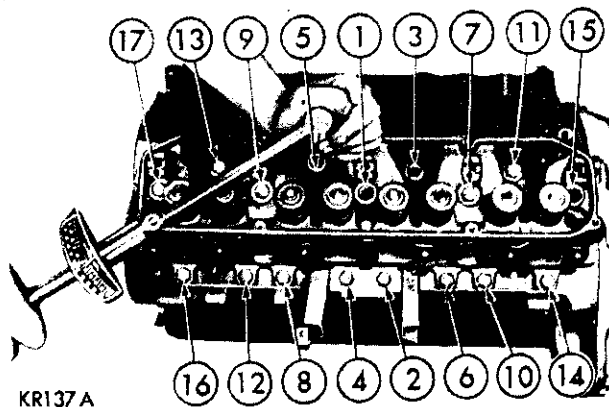
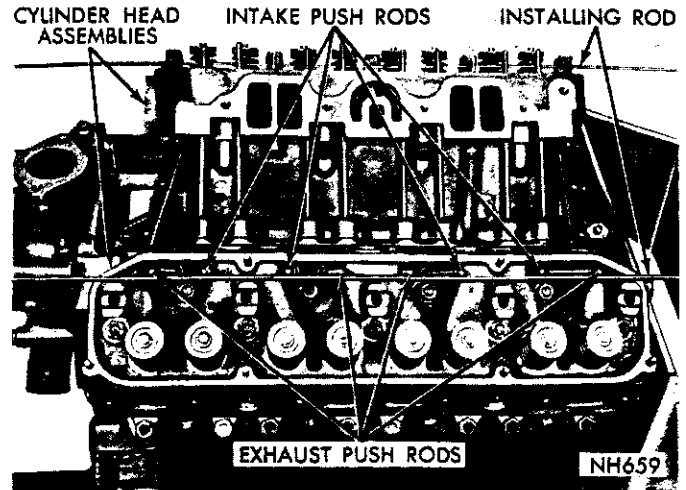

Fig. 6—Cylinder Head Tightening Sequence
Fig. 7—Push Rods Installed
(3) Coat new gaskets lightly with a suitable sealer, Chrysler Number 1057794 or equivalent. Install gaskets and cylinder heads.
(4) Install cylinder head bolts. Starting at top center, tighten all cylinder head bolts to 40 foot-pounds in sequence (Fig. 6). Repeat the procedure, tightening all head bolts to 70 foot-pounds.
(5) Inspect push rods and replace any worn or bent rods.
(6) Install push rods in the tappets maintaining alignment, using rod, (Fig. 7).